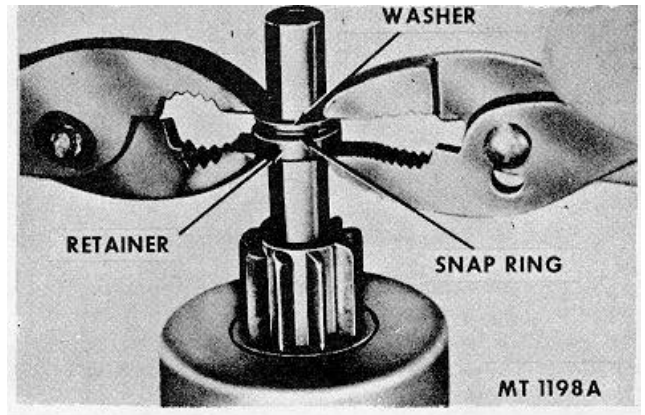

Fig. 11 Installation of Retainer And Thrust Collar
- c. To force the retainer over the snap ring, place a suitable washer over the shaft and squeeze the retainer and washer together with pliers, Fig. 11.